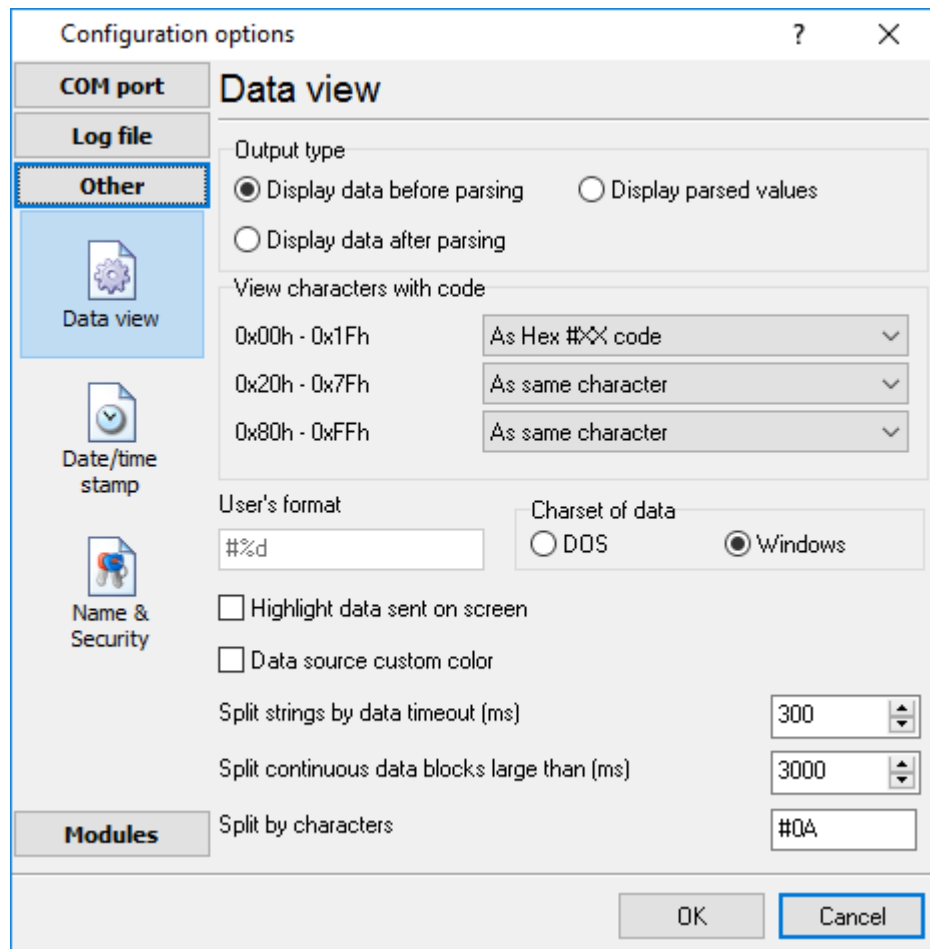

Fig. 3.1.1. Data view
The data in the main window (fig. 1.1.1⁷) can be displayed in two modes (fig. 3.1.1):
8. **Split by characters** - this option allows to visually splitting continuous data flow in the program window using the specified symbols. For example (fig. 3.1.1), the program will use a character with the 0Ah hexadecimal code that is equal to the "LF" ASCII code.